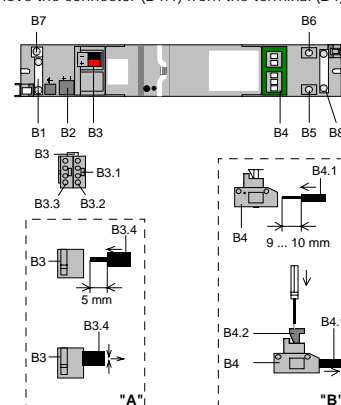

Figure 3: Connections
Slipping off bus connection blocks (Figure 3)
Slipping on bus connection blocks (Figure 3)
Connecting bus cables (Figure 3 "A")
- The sheathing of the bus cable must be attached to the casing of the built-in device via the conductor fixing (B1). When using a cable with shielding, it can be screwed onto the terminal (B7, Figure 3).
The recess (B2) can be used to accommodate an overvoltage protection which is connected to the bus connection block in parallel with the bus line (Figure 3).
Disconnecting bus cables (Figure 3 "A")
Connecting load and control circuits (Figure 3 "B")
- The sheathing of the bus cable must be attached to the casing of the built-in device via the conductor fixing (B8, Figure 3).
The terminals (B5) and (B6) are used to connect the N wires (B6) and PE wires (B5) of several cables (Figure 3).
Disconnecting load and control circuits (Figure 3 "B")